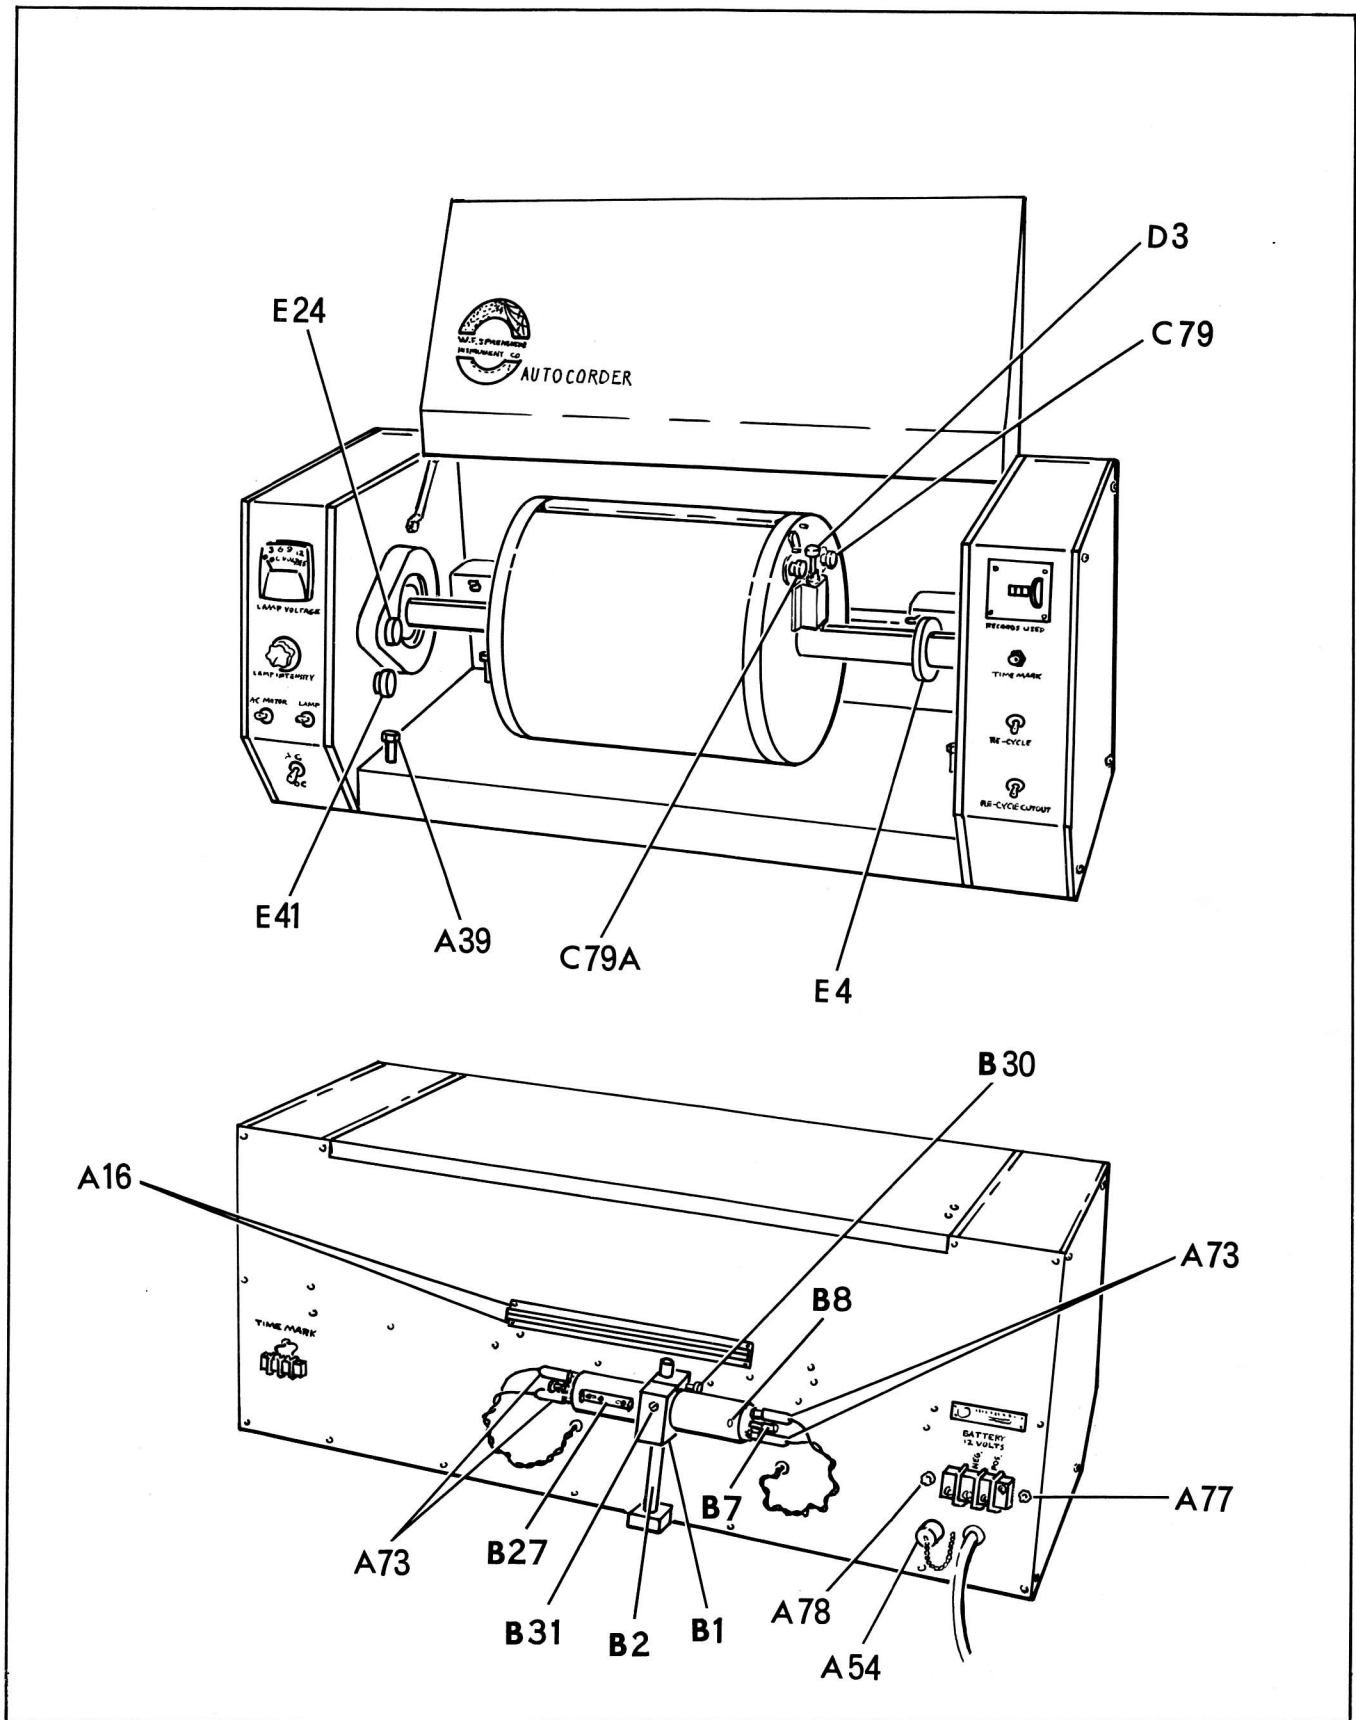

FIGURE 1
6. Place the light source on the mounting rod (B2, Fig. 1) with the aperture under the center of the recorder aperture strips (A16) and tighten the set screw (B30). Plug in the connecting leads (A73) to the lamp housing. Turn the light source on and set voltage at 12 volts.